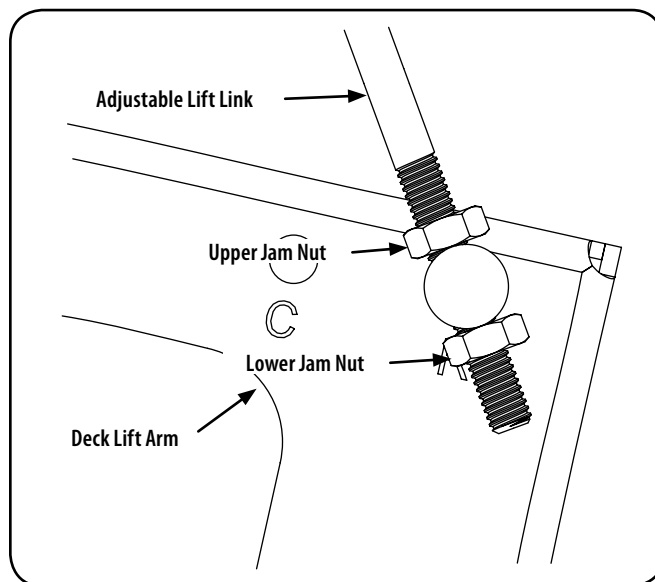

Figure 32
3. Loosen the lower jam nut on the adjustable lift link attached to the deck lift arm to lower the deck and tighten the upper jam nut to secure the deck in place, loosen the upper jam nut then tighten the lower jam nut to secure the deck in place. See Figure 32.